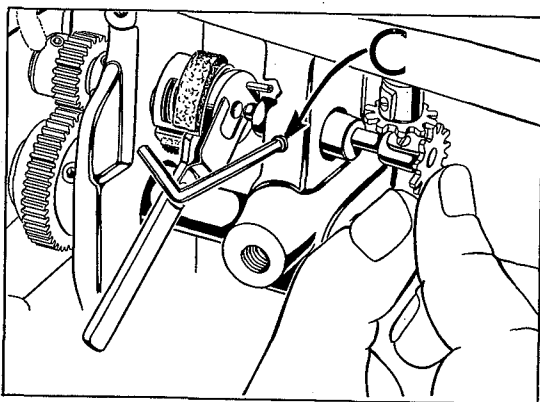

Fig. 25
5. Insert pump disc (F) into assembly tool No. 21227 BY, with the stop pin on the spring side of tool, 180° from handle. Insert disc approximately half way into the spring and center in tool (Fig. 25).
7. A clearance cut on the edge of the metering cup, located between the dovetail and the long horizontal slot, has been provided for the pump disc tool and should be facing you (Fig. 25).
9. Press hook oil control shaft bushing (L) to the left until control shaft (D) is approximately $1/16$ inch away from pump disc (F). Make sure the control shaft pivot pin (E) seats in the depression at the center of the pump disc. Tighten set screw (C, Fig. 25) and withdraw assembly tool. Be sure air seal felt (J) has seated against the pump disc.